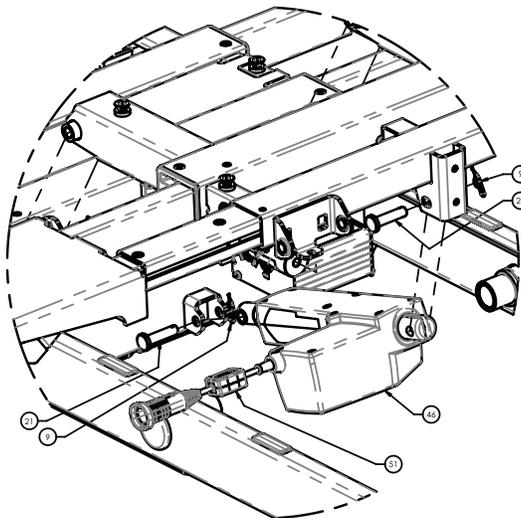

Figure 30 – Gatch actuator replacement
7. Using a small flat screwdriver, release the power/sensor cable quick connect (51) and disconnect the cable from the actuator (46) (Figure 30). When re-connecting the cables, fully seat and lock the cable quick connector retaining ring.
8. Using needle nose pliers, remove both rue ring retaining clips (9) from the clevis pins (21) that attach the actuator (46) to the litter weldment and Fowler weldment (Figure 30).
9. While supporting the actuator (46) with one hand, remove the head end clevis pin (21) and foot end clevis pin (21) and then lower the actuator down (Figure 30).